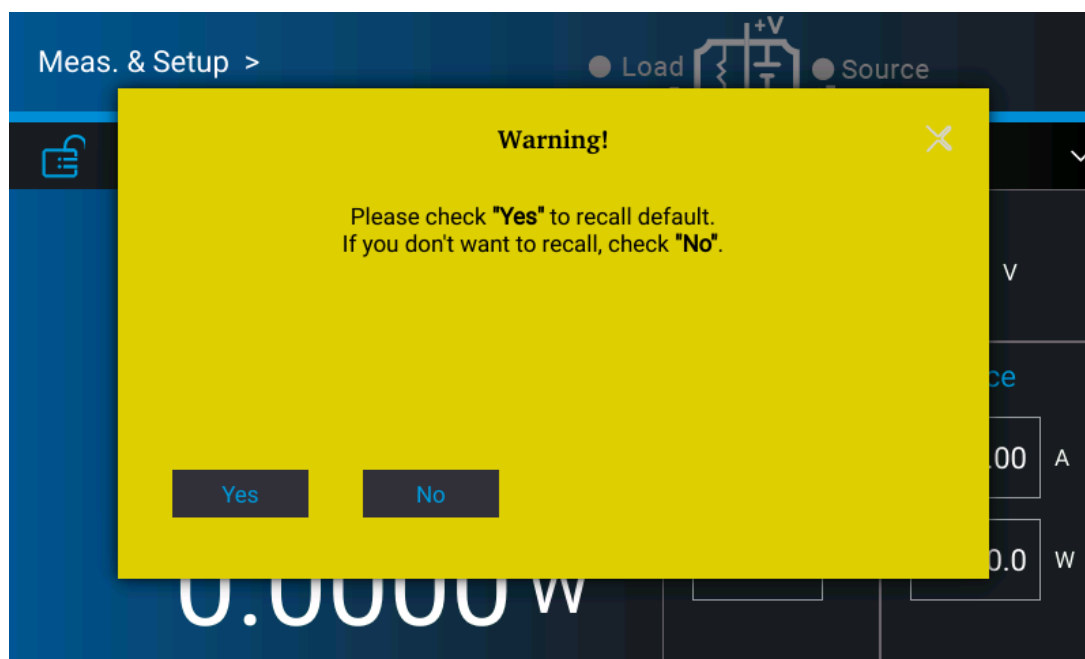

Figure 3-17
2. Tap Recall Factory Default. A warning message will prompt as Figure 3-17 shows. It will remain the last configuration settings saved by you if No is selected, and return all configurations to the factory default if Yes is selected.